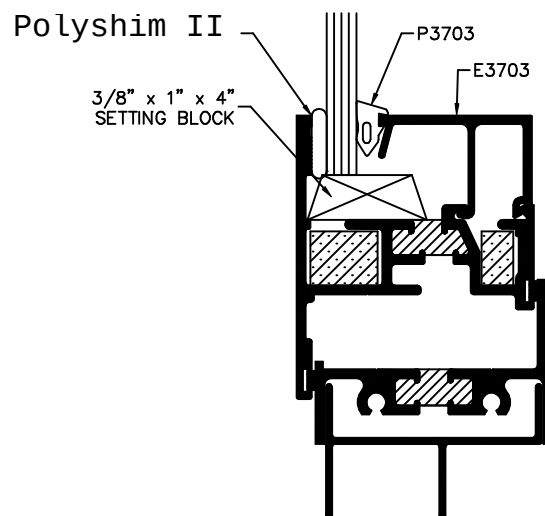

FIGURE 3
- B. USE E3703 FOR $1/4"$ GLAZING (SEE FIGURE 3).